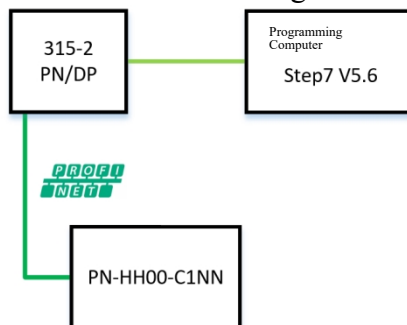

Fig. 5-2-17 Communication Link Diagram
1. See Fig. 5-2-17 for the communication link diagram.